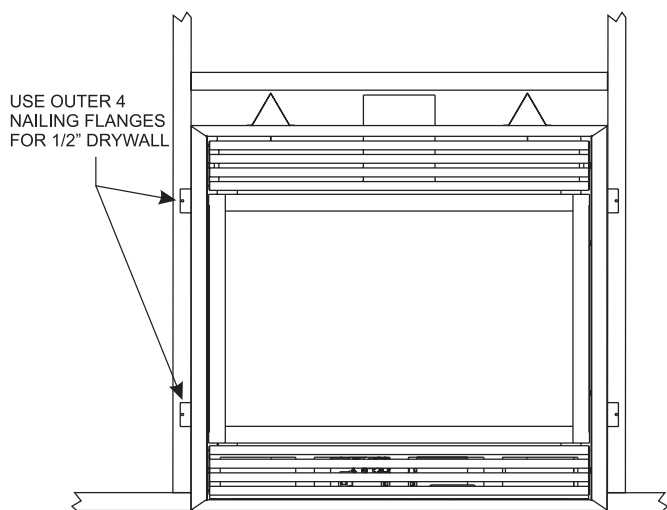

Figure 10A
3. Attach fireplace to frame using nailing flange. Preset depth to suit facing material (adjustable to 1/2", 5/8" or 3/4" depths). **NOTICE:** Fireplace must mount flush to facing material. If facing material requires more depth than 3/4", mark and drill two 1/8" holes into fireplace side at appropriate depth. Bend standoff tabs as needed to move fireplace flush with facing material. See Figure 10A.